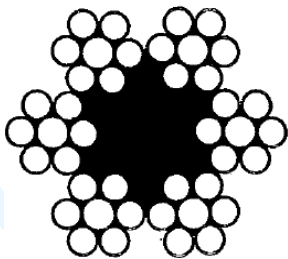

Fig. 18
**Fig. 18 TRAVEL (One Tracks).** Lock on side indicated by raised fist. Travel opposite track in direction indicated by circular motion of other fist, rotated vertically in front of body. (For land crane only)